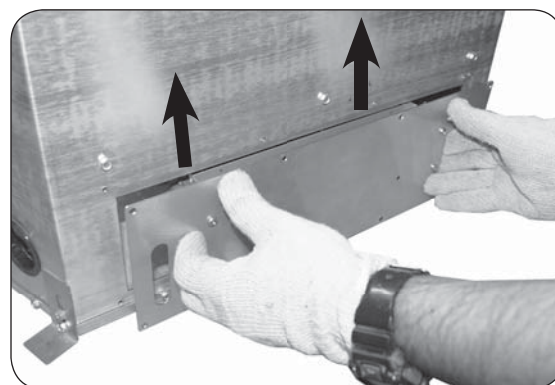

Fig. 1-2 Lift panel for removal
2. Slightly lift the panel up, then pull the panel and fan assembly out of the unit (see Fig. 1-2 and 1-3).